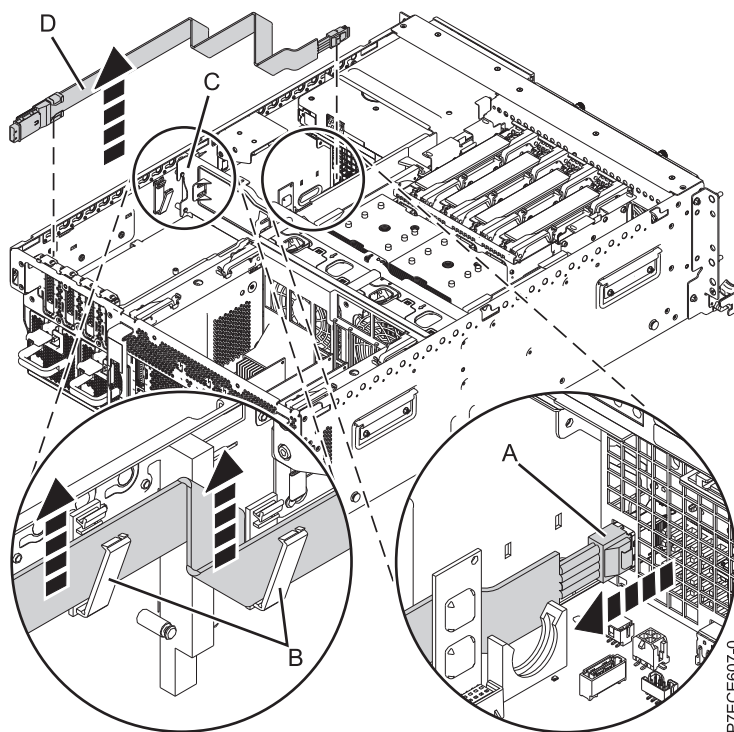

Figure 135. Removing the SAS cable
3. If necessary, remove the existing SAS cable or filler, see Figure 135.
- a. Press the side tab and pull out the SAS shroud (A) from the SAS connection on the system backplane.
- b. Open the cable clamp (B) on the side wall. The cable clamp opens from the top.
- c. Pull the SAS cable (D) out of the system.